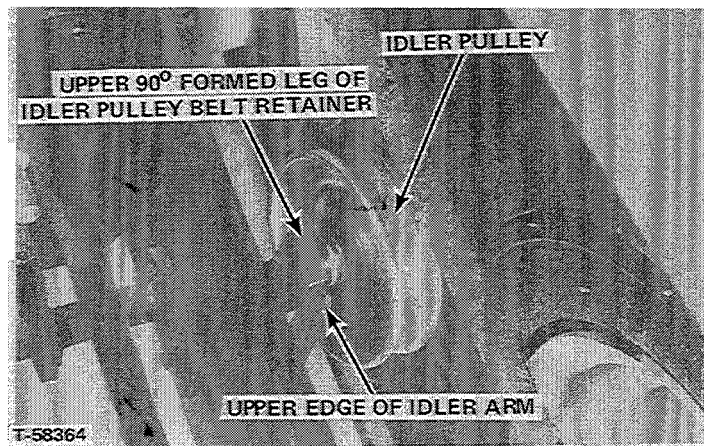

FIGURE 40
5. Check that the upper 90° formed leg of the idler pulley belt retainer is resting on and is parallel to the top edge of the idler arm as shown in Figure 40, to properly locate the belt retainer.